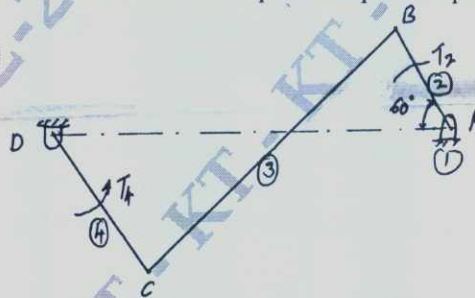

Fig Q1(b)
- b. In a 4 bar link mechanism shown in Fig Q1(b) the link 4 subjected to a torque $T_4 = 20\text{N-m}$. The link length are $AD = 800\text{mm}$, $AB = 300\text{mm}$, $BC = 700\text{mm}$ and $CD = 400\text{mm}$. For static equilibrium of the mechanism determine the required input torque T_2 and link 2. (15 Marks)